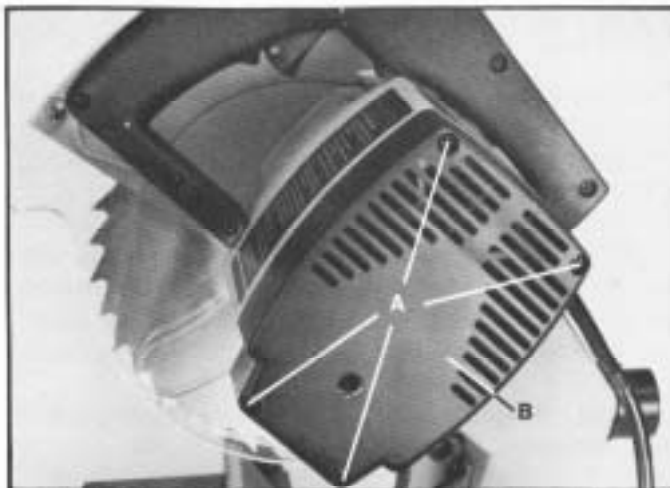

Fig. 33
2. Remove the four screws (A) Fig. 33, and cover (B) from the end of the motor housing.